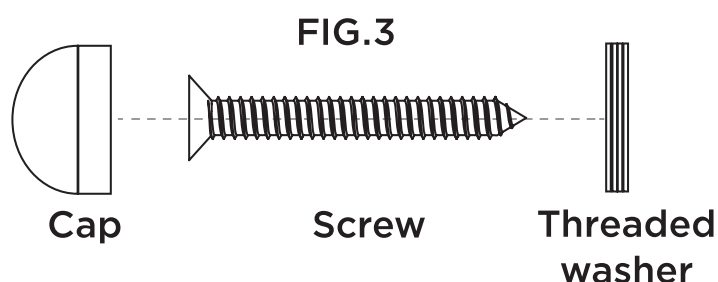

FIG.3
4. Ensure that the brass threaded washers provided, sit between the accessory and the screw head, fit screws accordingly, see (Fig.3)